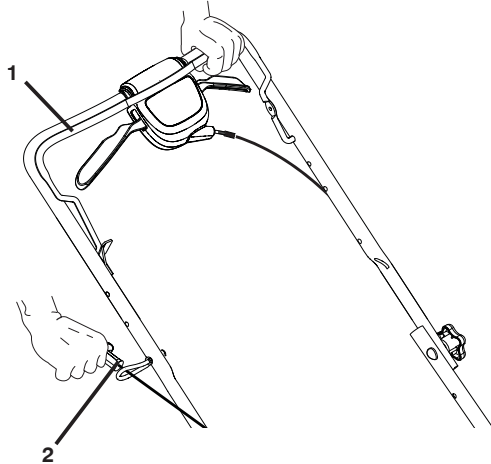

Figure 14
1. To start engine, hold operator presence control bar down to the handle and pull starter handle quickly. Do not allow starter rope to snap back (Figure 14).